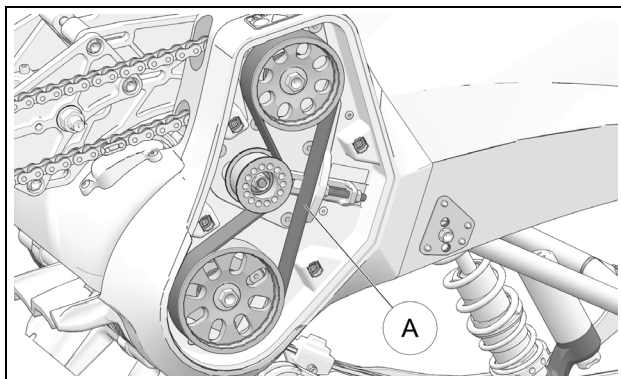

Figure 53
Check the general condition of the Syncro Drive belt (A). If you notice cracks or missing teeth, if cord is showing or there is abnormal wear, replace the belt. Figure 53.